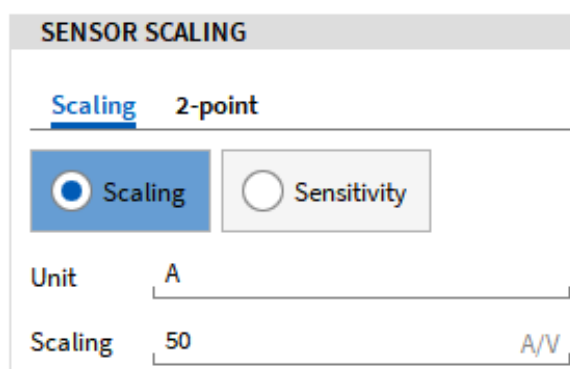

Fig. 7.47: Entering the shunt resistance as scaling factor
- Change the Unit to A (Ampere) and enter the resistance of the shunt resistor as Scaling factor, i.e. 50 Ω (see Fig. 7.47).